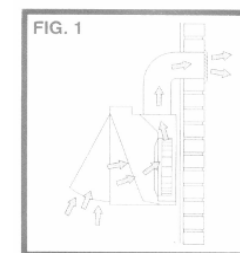

FIG. 1
1. Extraction Via Ducting (fig.1)
The very best method of cleaning the kitchen of unwanted odours is by connecting the appliance to an exhaust duct and venting to the outside atmosphere via an exterior wall (suitable ducting kits may be purchased from the store where you buy your extractor.) Ducting your extractor negates the need for charcoal filters.(Fig.1)